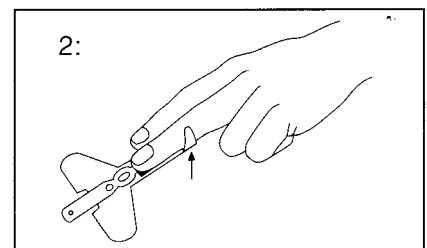

Fig. 32 Positioning the receiver on the fingertip
- 2 Now press the receiver on the fingertip and wrap the adhesive T ends around the finger (Fig. 32).